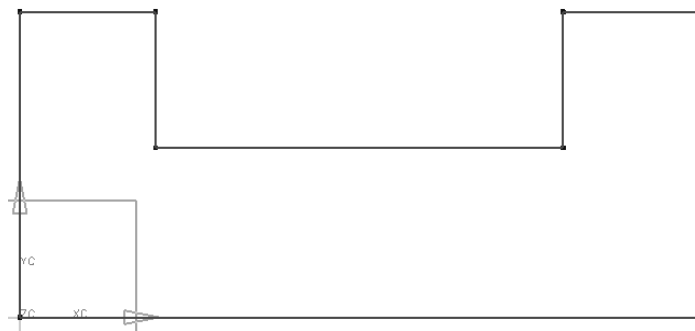

Figure 1-43 Sketch after drawing lines
16. Press the ESC key twice from the keyboard to exit the **Profile** tool. The sketch after drawing the lines is shown in Figure 1-43.